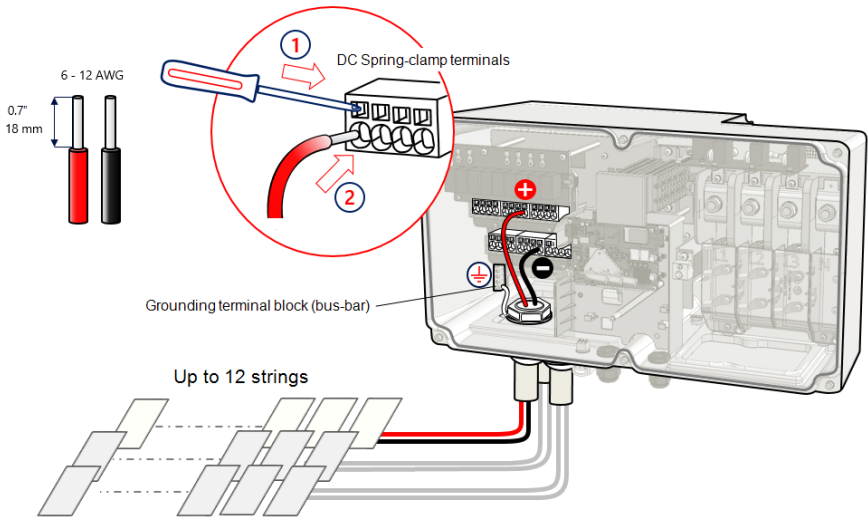

Figure 22: Connecting the DC wires to a Synergy Manager with spring-clamp DC terminals
- c. Insert the wire into the top opening (see *Figure 22*).